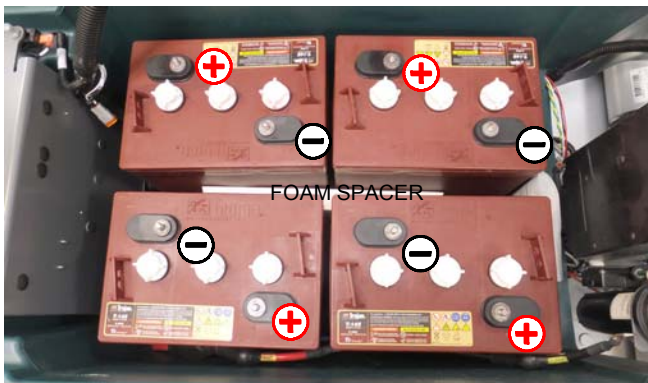

FIG. 2
2. Carefully install the batteries into the battery compartment tray and arrange the battery posts as shown (Figure 2). Position foam spacer between batteries as shown.